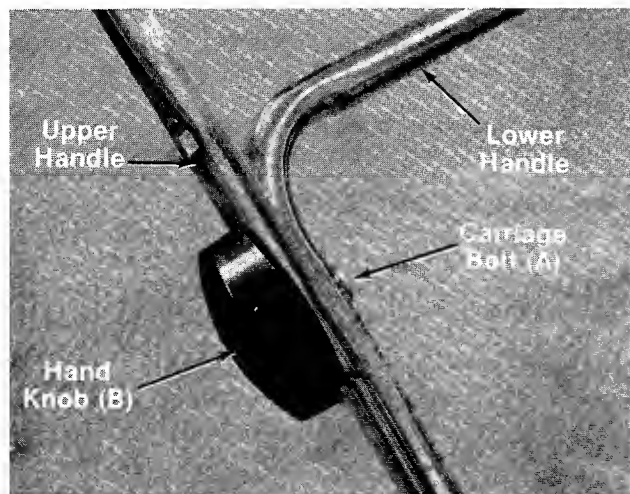

FIGURE 3. Folding Handle Only
A. Units with Folding Handle—Secure upper handle with two curved carriage bolts (A) and hand knobs (B) as shown in figure 3. The knobs may be assembled either to the inside or the outside of the handle.